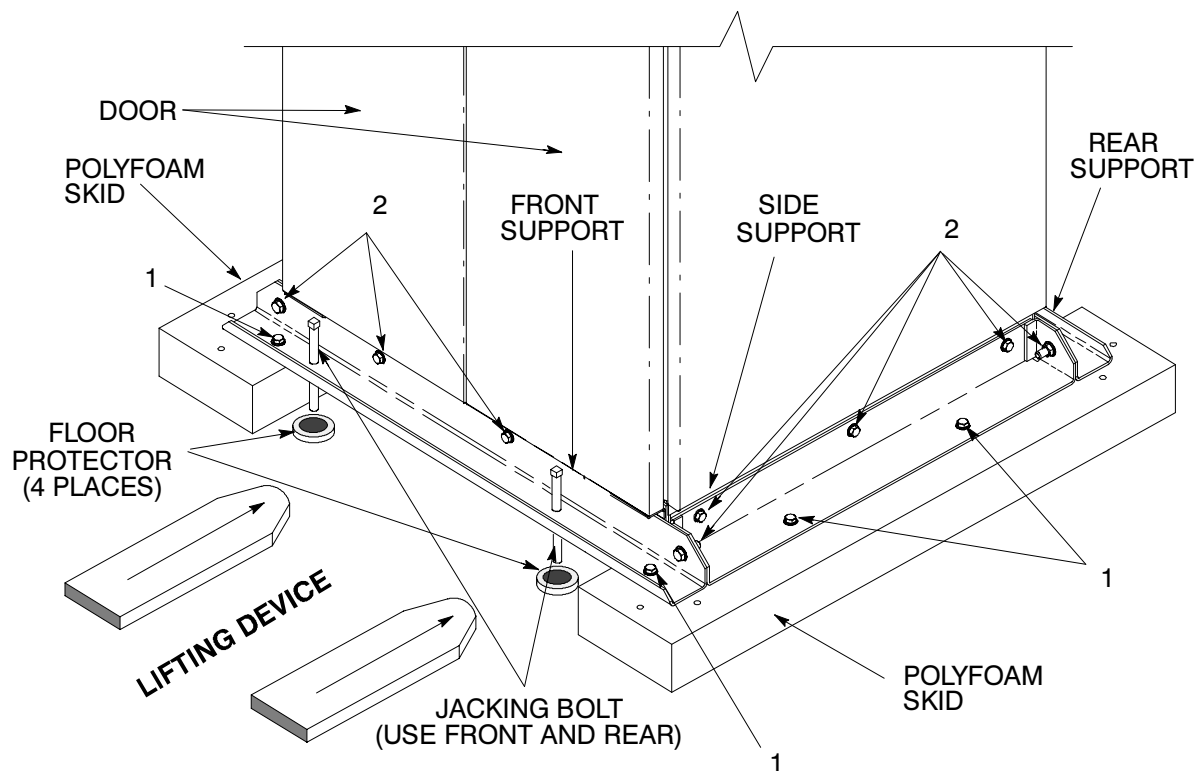

Figure 5. Detail of Shipping Supports
3. Loosen, but do not remove the hardware holding the plywood/polyfoam skids to the front and rear supports (labeled "1" in Figure 5 – 8 places).
8. Remove the hardware labeled “2” in Figure 5, holding the front, rear and side supports to the module base (14 places). Discard or recycle the hardware and support brackets in a responsible manner.